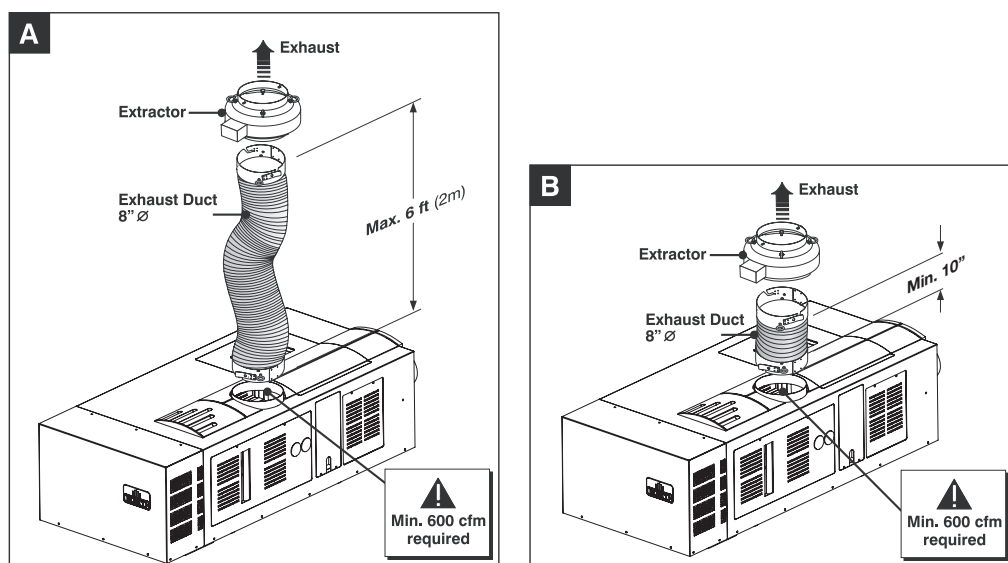

Figure 3-8. Extractor Fan Configurations
- Use a duct that is no less than 10 inches and no more than 6 feet long; see Figure 3-8. To prevent possible transfer of fan vibration to the image, do not mount the extractor directly on the projector — include at least 10 inches of duct.